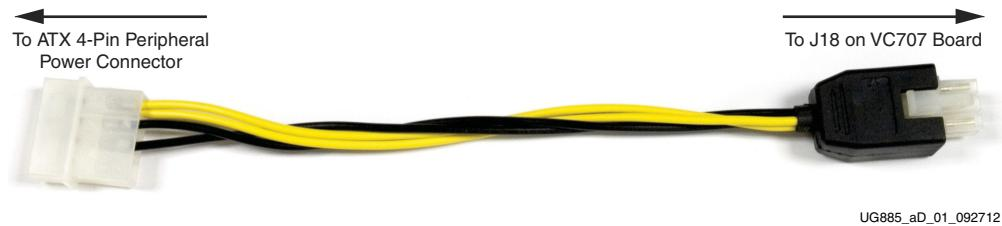

Figure D-1: ATX Power Supply Adapter Cable
When the VC707 board is used inside a computer chassis (that is, plugged in to the PCIe® slot), power is provided from the ATX power supply 4-pin peripheral connector through the ATX adapter cable shown in Figure D-1 to J18 on the VC707 board. The Xilinx part number for this cable is 2600304.
7. Connect the ATX power supply to the VC707 board using the ATX power supply adapter cable as shown in Figure D-1: